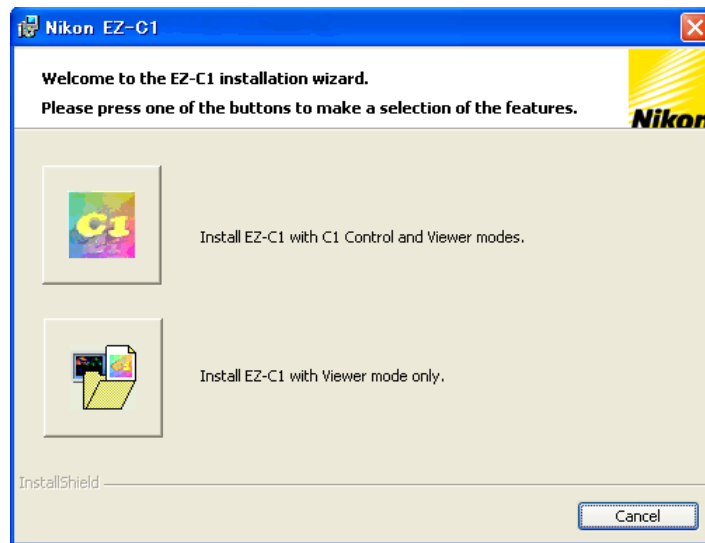

Figure 1.5-4 Installer screen
- (2) Next, click “Install EZ-C1.”
- (3) A screen similar to the one shown below (Figure 1.5-4) will appear. Press the upper button in this screen to install EZ-C1 or the lower button to install only Viewer.